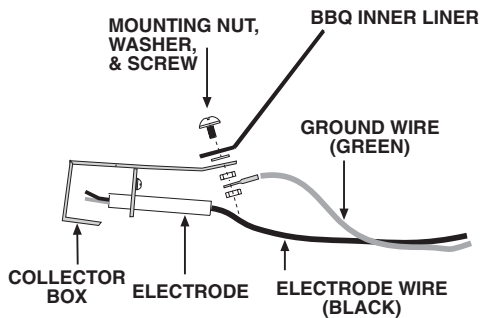
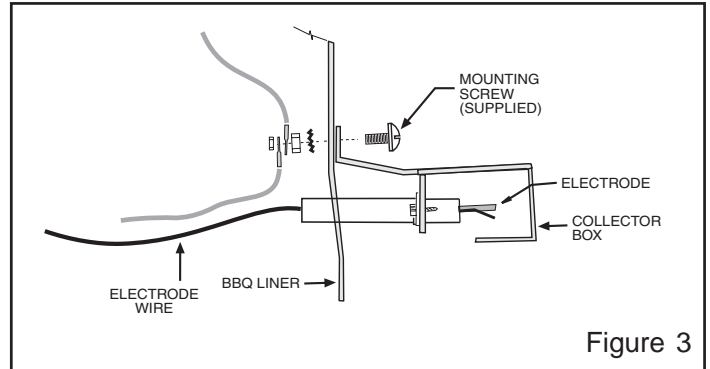

Figure 2
Figure 3
6. Attach the new electrode kit and ground (if used) to the barbecue liner with the adjusting screw, nut and washer provided, in the method indicated in either Figures 2 or 3, whichever matches your barbecue setup. Ensure the new collector box is fitted in the same position as the old one.
**Note:** For all setups you will need to bend part of the collector box upwards along point A (see Figure 1). We recommend you use pliers to start, then use a flat non-slip surface to bend the metal to the right angle required, as in Figure 3. The other setup (Figure 2) may require a smaller bend, as fits the circumstance. Use the old collector box & bracket as a reference for the proper bend. When the collector box is screwed into place, ensure the outer shoulders rest firmly and squarely on the burners. Slight bending may occur across point B. This is normal and allows box to sit in the correct position.